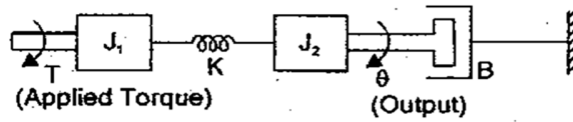

Fig 1.
- 3 (a) Find the overall transfer function of the system whose signal flow graph is shown in fig1..
- b) Write the differential equations governing the mechanical rotational system shown in fig 1. Obtain the transfer function of the system 5M
The closed loop system is shown in fig 1.